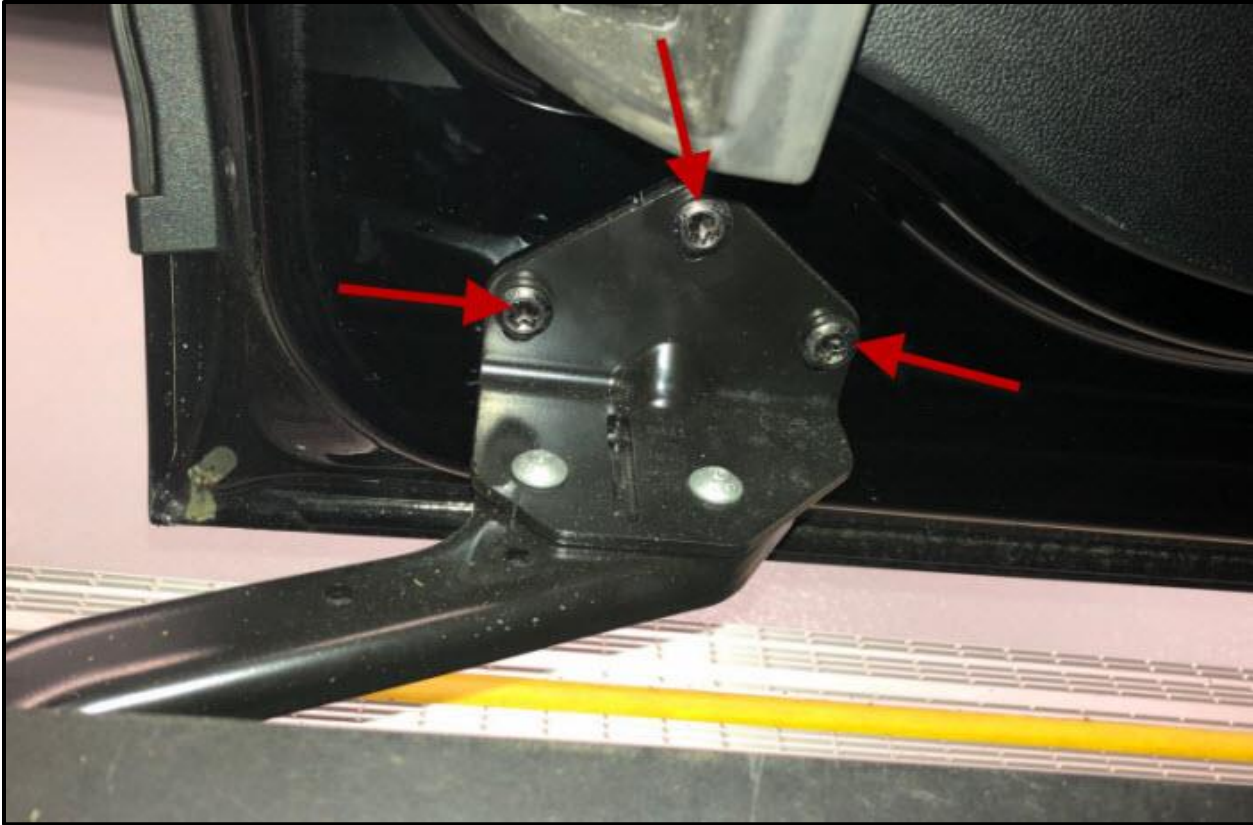

Figure 3
4. Torque the bolts of the carriage for the load compartment sliding door to 32Nm (see figure 3).